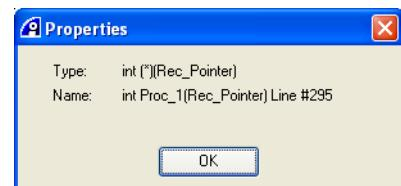

Figure 13-49 Properties of a Call Stack entry
2. Select **Properties** from the context menu to display the Prompt dialog box. This shows the properties for the chosen Call Stack entry. Figure 13-49 shows an example: